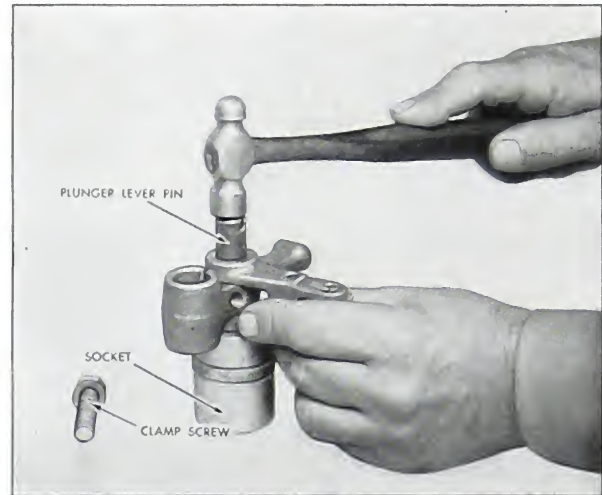

Fig. 5-40. Plunger lever pin
2. Drive the pin from the plunger lever, making sure not to lose any of the 56 needle bearings in which it is mounted. If the plunger lever is placed on a 1½" socket during the operation, the socket will catch the needle bearings. Fig. 5-40.